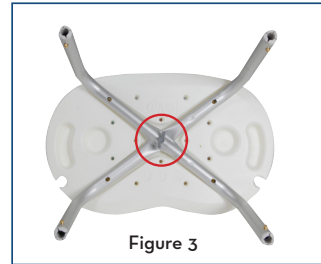

Figure 3
4. Secure in place through the center hole using a SMALL thumb screw (A) (Figure 3).